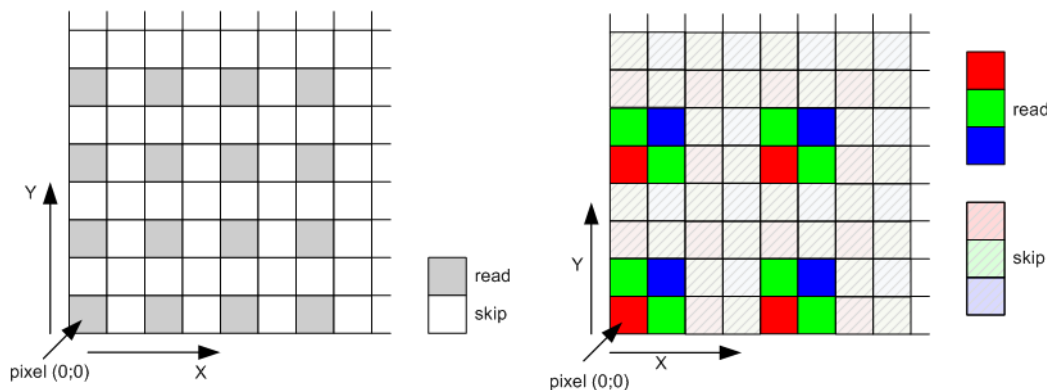

**Figure 23. Scanning the Image Array with Five Windows**
Figure 23 illustrates a practical example of a configuration with five windows. The current position of the read pointer (ys) is indicated by a red line crossing the image array. For this position of the read pointer, three windows need to be read out. The initial start position for the x-kernel pointer is the x-start configuration of ROI1. Kernels are scanned up to the ROI3 x-end position. From there, the x-pointer jumps to the next window, which is ROI4 in this illustration. When reaching ROI4's x-end position, the read pointer is incremented to the next line and xs is reinitialized to the starting position of ROI1.
- The read pointer is not necessarily incremental by one, but depending on the configuration, it can jump in y-direction. In Figure 23, this is the case when reaching the end of ROI0 where the read pointer jumps to the y-start position of ROI1